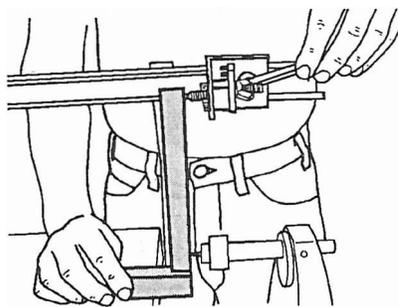

Fig. B-13
11. Unlock and move the table next to the tailstock. Repeat Steps 8 through 10 to align the template center to the tailstock center, as indicated in Figs B-13 and B-14.